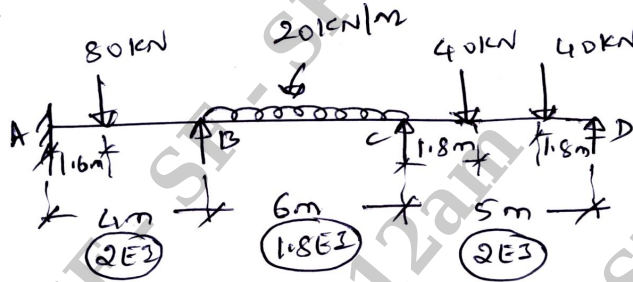

Fig.Q5(a)
- 5 a. Analyze the beam shown in Fig.Q5(a) by stiffness method. Draw BWD, SFD and Elastic curve.